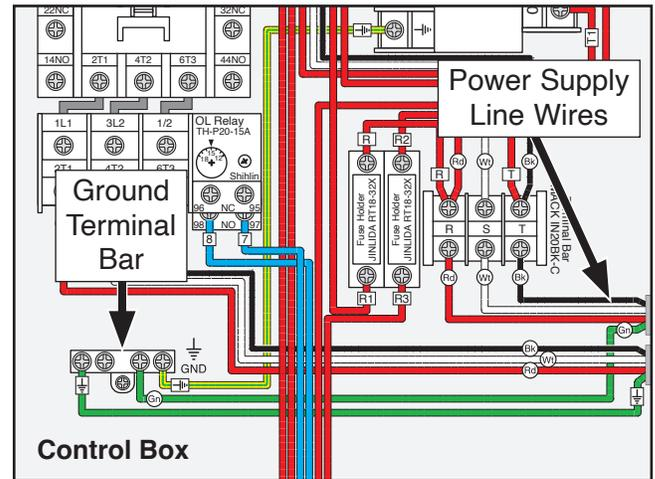

Figure 22. Connected 440V power supply wires.
23. Tighten strain relief on motor junction box to secure 440V motor cord, then install motor junction box cover and secure with (4) fasteners removed in **Step 17**.
24. Route incoming power supply wires through available strain relief on side panel of control box and connect line wires to terminal bar (see **Figure 22**).
25. Connect power supply ground wire to any open terminal on ground terminal bar (see **Figure 22**).